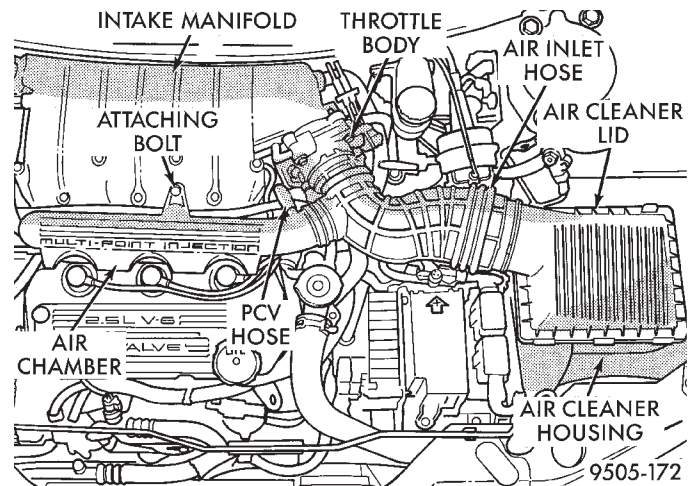

Fig. 67 Engine Air Intake System Components
(3) Remove the PCV hose (Fig. 67) from the air chamber located on the front of the intake manifold. Remove bolt (Fig. 67) attaching the air chamber to the intake manifold. Then unlatch lid of air cleaner from air cleaner housing and loosen clamp attaching air inlet hose to throttle body (Fig. 67). Remove the air cleaner lid, air inlet hose and air chamber (Fig. 67) as an assembly from the engine.
(16) Install the mounting bracket for the throttle cable and speed control cable onto the intake manifold and securely tighten the mounting bolts.
(17) Install the throttle cable, and if equipped, the speed control cable on the cam of the throttle body assembly.
(18) Install the air cleaner lid, air inlet hose and air chamber (Fig. 67) as an assembly on the engine. Latch lid of air cleaner to air cleaner housing. Securely tighten the clamp attaching the air inlet hose to the throttle body (Fig. 67). Install and securely tighten the bolt attaching the air chamber to the intake manifold (Fig. 67).